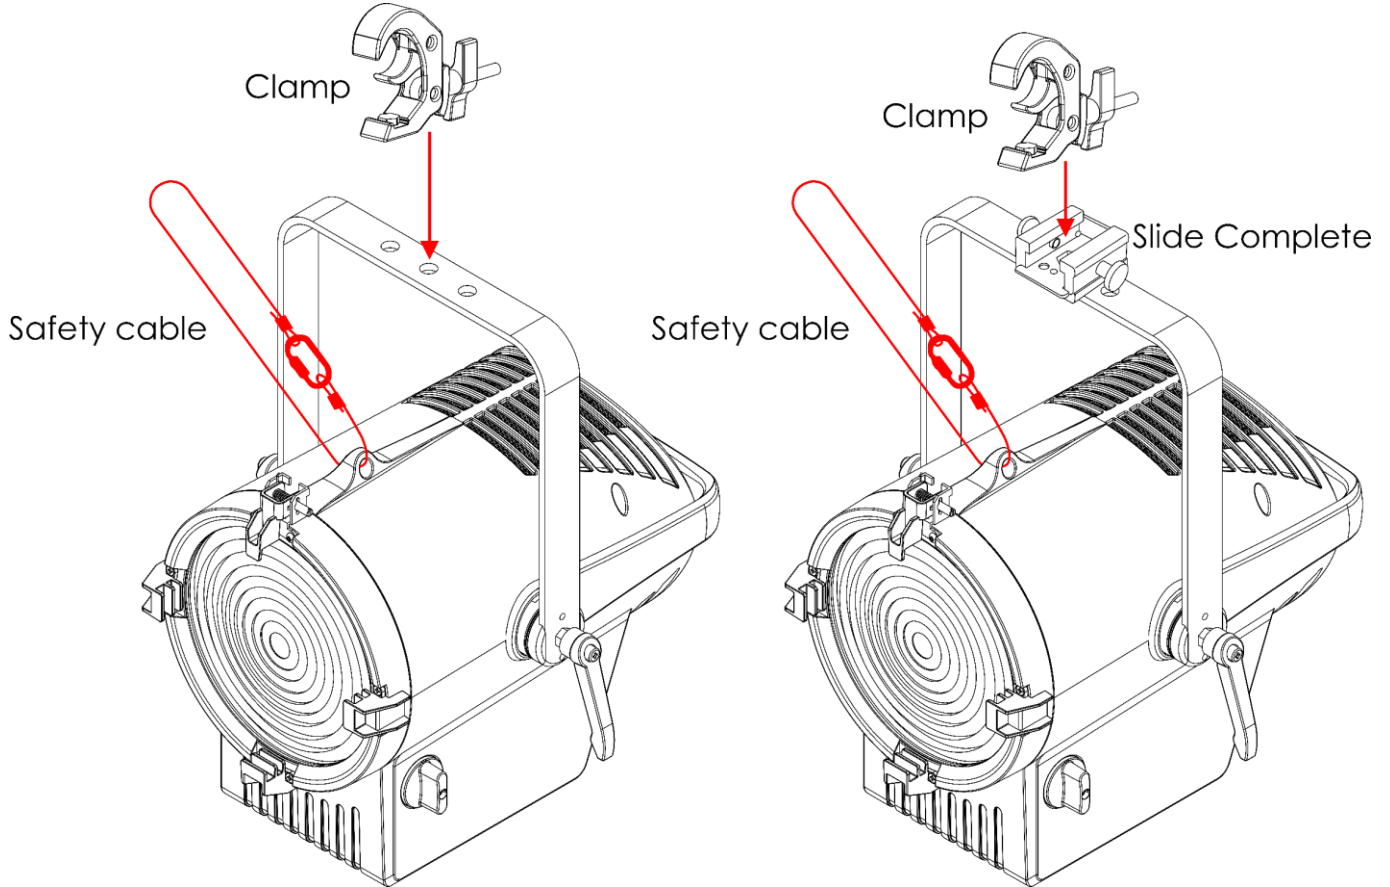

Fig. 07
- 01) Use a clamp to attach the device to the supporting structure, as shown in Fig. 07. Make sure that the device cannot move freely. Optionally, you can use the Slide Complete to attach the device.
- 02) Secure the device with a secondary suspension, for example a safety cable. Make sure that the secondary suspension can hold 10 times the weight of the device. If possible, the secondary suspension should be attached to a supporting structure independent of the primary suspension. Put the safety cable through the **safety eye (07)**, as shown in Fig. 07.